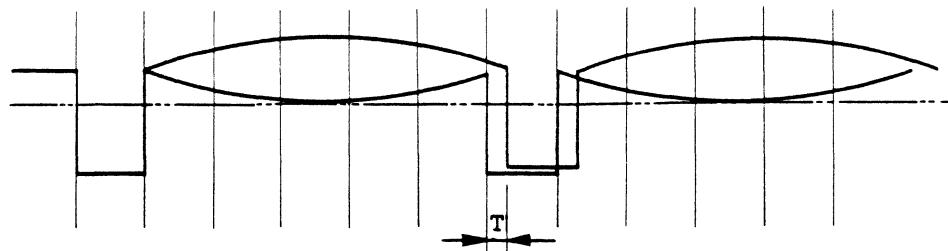

Fig. 9.7 Asymmetry Waveform
- (4) Write 1F.
(5) A read wave form is displayed on the oscilloscope as shown in Fig. 9.7.